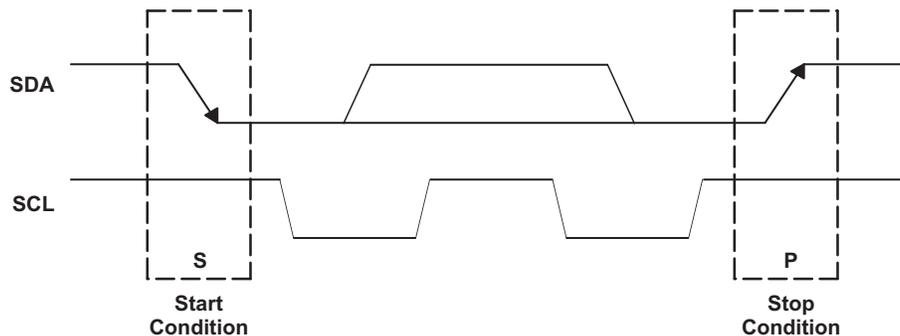

Figure 5. I2C Start and Stop Conditions
Figure 5 shows the basic I2C start and stop access cycles.
- The *master* initiates data transfer by generating a *start condition*. The *start condition* exists when a high-to-low transition occurs on the SDA line while SCL is high, as shown in Figure 5. All I2C-compatible devices should recognize a *start condition*.
- To signal the end of the data transfer, the master generates a *stop condition* by pulling the SDA line from low to high while the SCL line is high (see Figure 5). This transaction releases the bus and stops the communication link with the addressed slave. All I2C-compatible devices must recognize the *stop condition*. Upon the receipt of a stop condition, all devices know that the bus is released, and they wait for a *start condition* followed by a matching address.